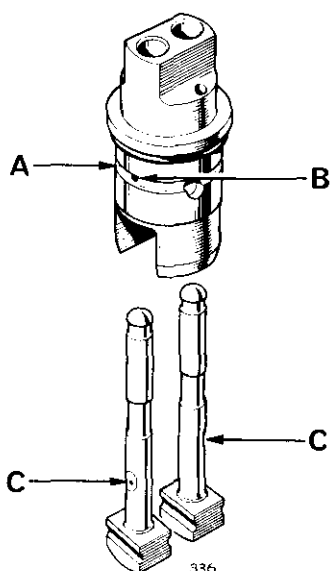

Fig. B17 Showing the correct method of assembly of the exhaust tappets
The correct method of assembly of the tappets is shown in Fig. B17. The machined cut away faces (C) should be facing the outside of the tappet guide block, i.e. the tappets must not be fitted with the cutaways facing one another, otherwise the oil holes (B) drilled in the annular groove of the tappet block (A) will not be able to supply lubricant to the tappets.